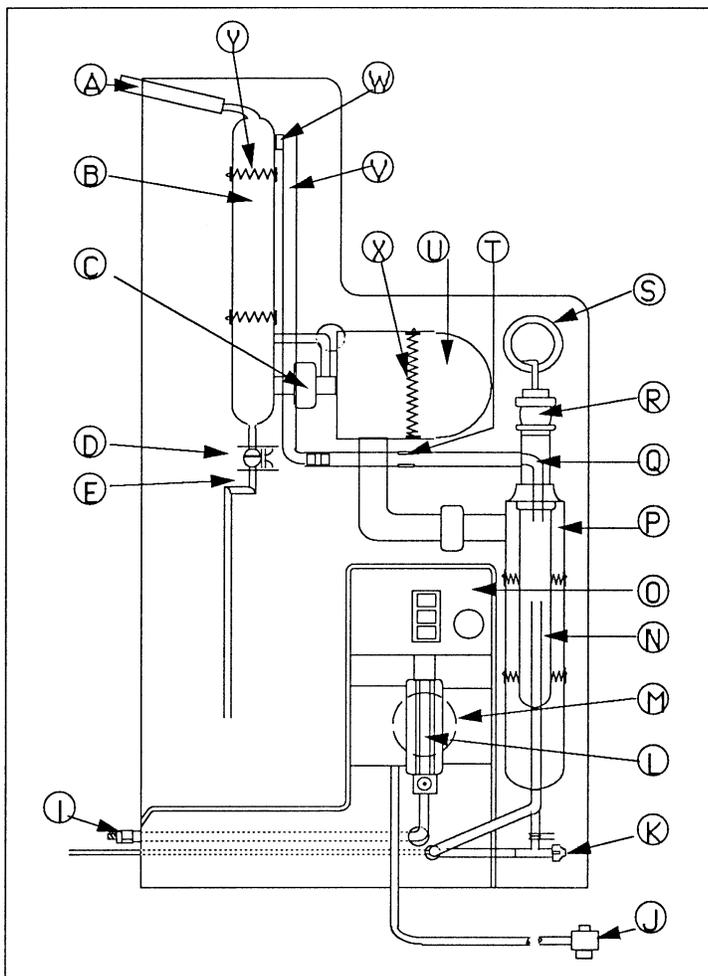

Figure 4
Refer to Figure 4 for the following steps:
3. Check orientation of trap U. If it is not level or tilted back toward the boiler as shown in Figure 4, move the condenser B up in its bracket. This will tilt trap as shown in Figure 4.
5. Remove packing material and rotate tube Q into the constant level chamber of boiler P as shown in Figure 4.
7. Insert immersion heater into the top opening of boiler P as shown in Figure 4.